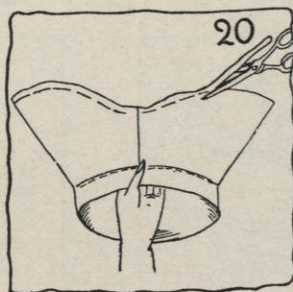

FIG. 20.
- g. Cut brim at edge as desired (see Figure 20).